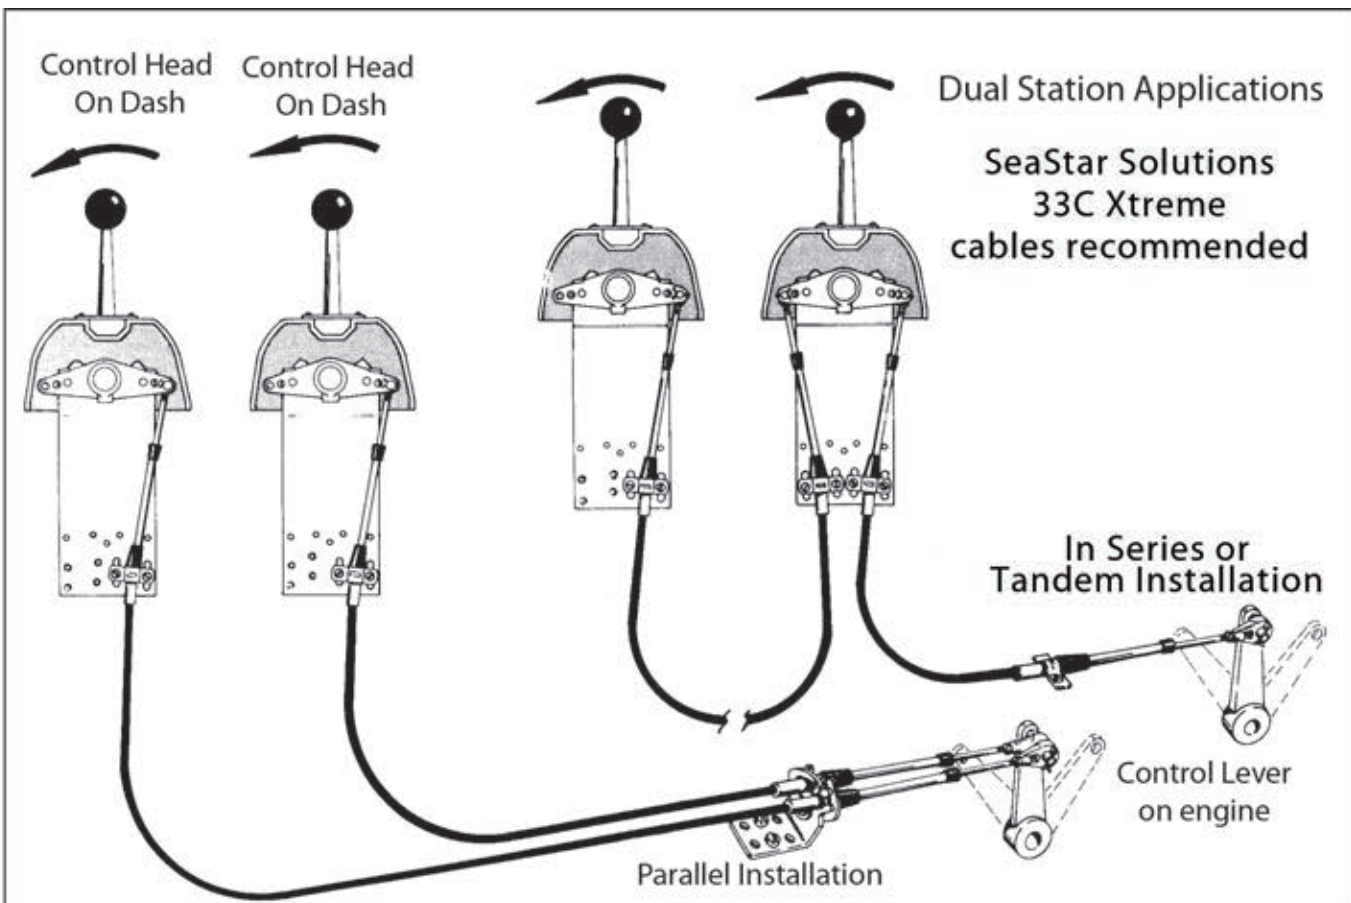

Figure 4.
STEP 4. A friction brake setscrew is located at the hub center of the hand lever (See Figure 4). Turn the setscrew clockwise to increase drag on the hand lever or counter-clockwise to decrease drag as required.
Typical dual station applications are shown in Figure 4.